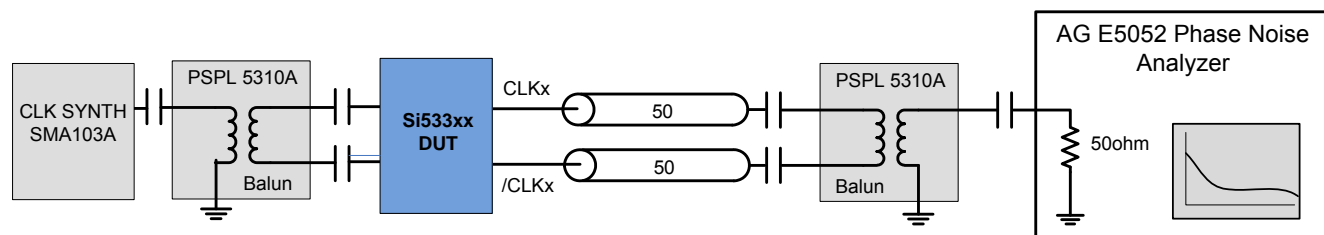

Figure 1. Differential Measurement Method Using a Balun
- Measured differentially using a balun at the phase noise analyzer input. See Figure 1.
Total Jitter (Diff): Combined source and clock buffer phase noise measured as a differential output to the phase noise analyzer and integrated from 12 kHz to 20 MHz. The differential measurement as shown in each figure is made using a balun. See Figure 1 on page 5.